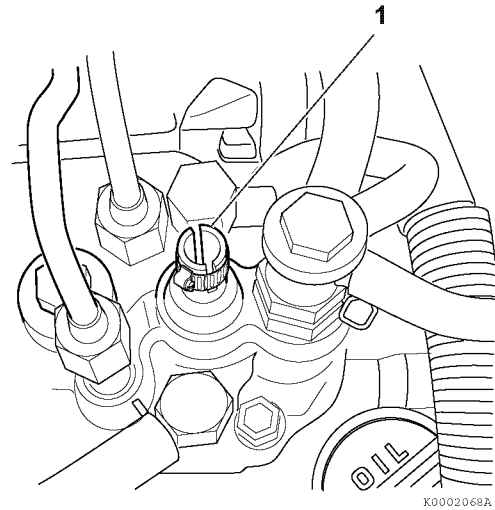
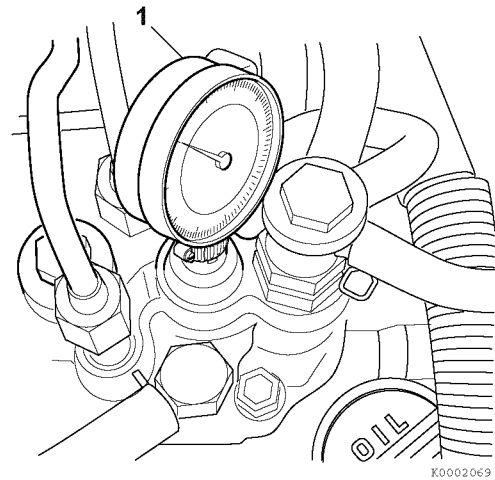

Figure 7-33
Figure 7-34
*Note: Use the YANMAR Part No. 158090-51831 M14 adapter for the MP2 fuel injection pumps and YANMAR Part No. 23000-013000 plunger adapter clamp (1 **Figure 7-33**).*
5. Install a dial indicator (1, **Figure 7-34**), Mitutoyo No. 2050SB or equivalent, with a 30 mm extension, YANMAR Part No. 158090-51870 or Mitutoyo No. 303613, into the adapter. Secure with the YANMAR Part No. 23000-013000 plunger adapter clamp (1, **Figure 7-33**) at approximately the mid-point of its travel.